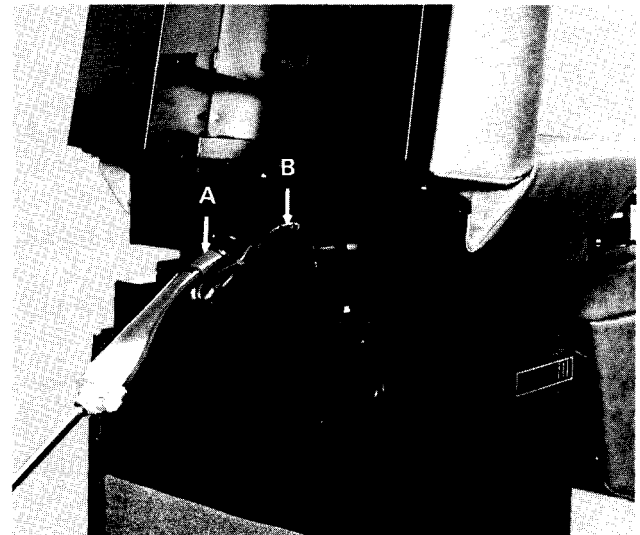

Fig. 18
- 4) Remove "E" ring and clevis pin from rod end of cylinder. Have an assistant hold the back section against the seat section and let cylinder hang down, (Fig. 18).
- 5) Remove large nylon tie (Item A, Fig. 18) from cylinder. **(NOTE:** Replacement ties are included in cylinder replacement kit.)
- 6) Unwrap protective plastic covering from hose bundle, (Item B, Fig. 18).
- 12) Install large nylon tie to cylinder, (Item A, Fig. 18).
- 13) Replace protective plastic covering to hose bundle, (Item B, Fig. 18).